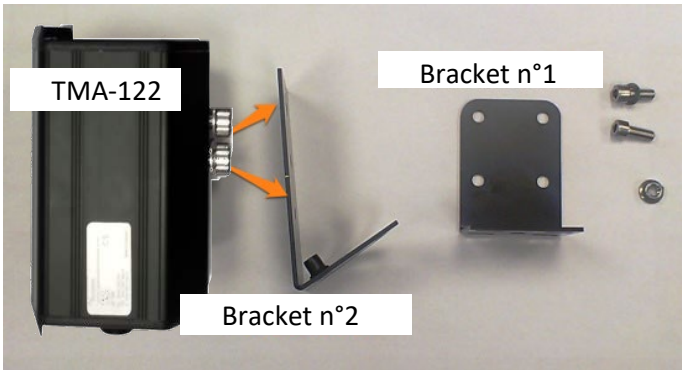

Figure 8: bracket elements
3. Fix the radar on bracket n°2 (see Figure 8).